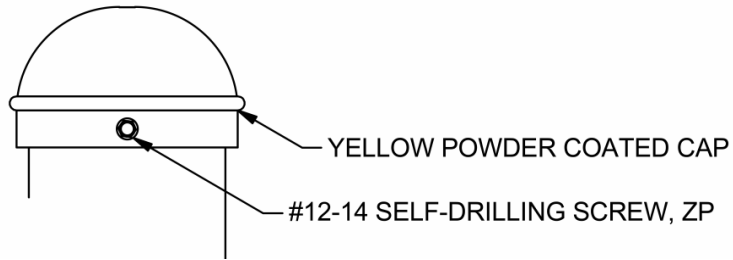

FIGURE: 10
2. Install the yellow powder coated cap on top of foul pole with #12-14 self-drilling screw (figure 10).